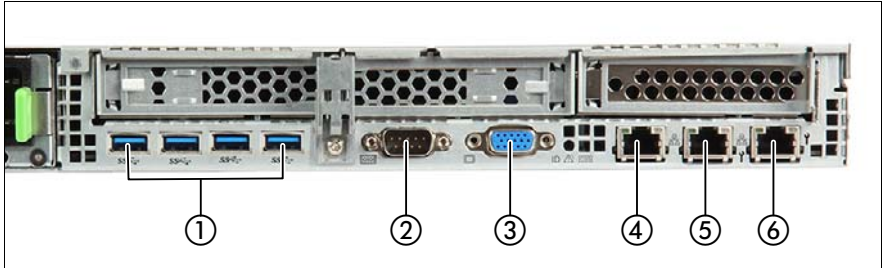

Figure 4: Connectors on the rear
- ▶ Plug the data cable for the monitor into the video connector on the server (see figure 4 on page 51).